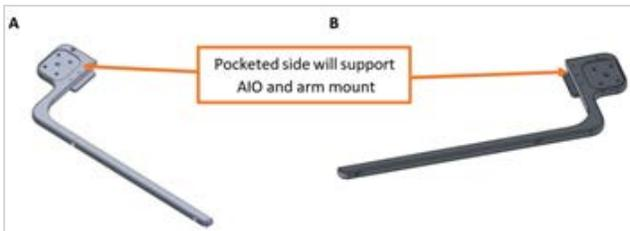

Figure 1: Large white bracket orientation; (A) AIO on left of BD MAX, (B) AIO on right
1. The arm mount can be placed on either side of the BD MAX. Orient the large white bracket so that the pocketed side will be on the desired side for the AIO (Fig. 1).